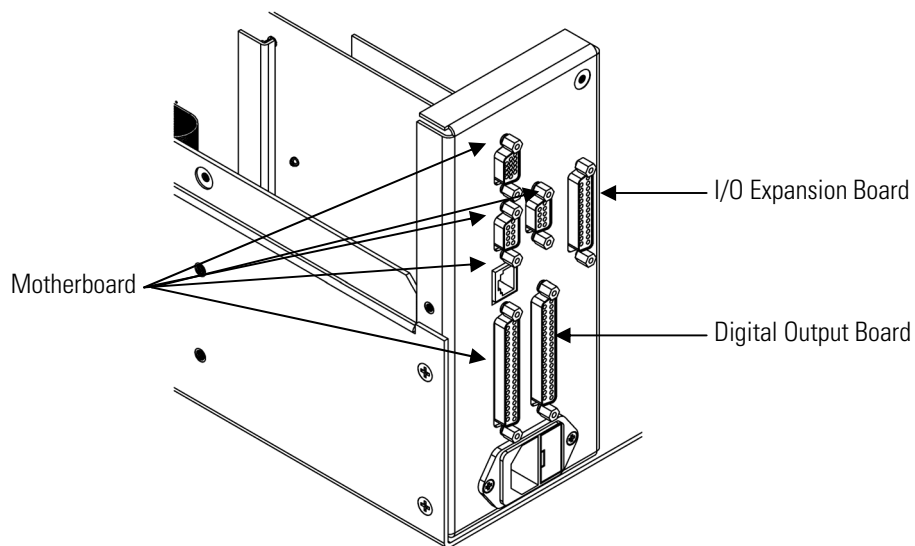

Figure 7-17. Rear Panel Board Connectors
3. Remove the two standoffs holding the I/O expansion board connector to the rear panel (Figure 7-17).